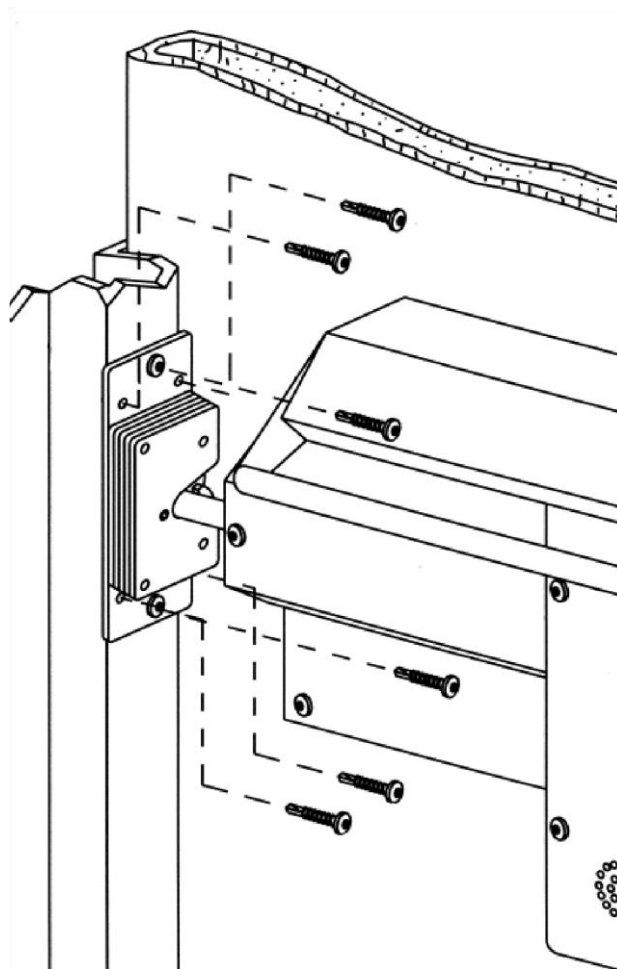

FIGURE 6
8. With the door closed, slide the latch over the lock bolt rod, making sure it latches. Mark around the outside of the latch and open the door. Remove the paper backing from the adhesive tape on the back of the latch and temporarily affix it to the jamb stop - aligning with the marks. Fasten the latch to the jamb stop with two (2) self-drilling torx screws through the two (2) slotted holes in the latch (See Figure 6). Verify that the lock bolt fully latches into the latch and extends fully. If necessary, make additional adjustments by loosening the two (2) self-drilling torx screws and moving the latch. Make sure the door closes and locks smoothly and securely. Tighten the two (2) self-drilling torx screws. Once you are satisfied with the adjustments, secure the latch to the jamb stop with the remaining four (4) self-drilling torx screws.
| 1008-01 | Latch Assembly Packaged (Shown in Figure 6) |